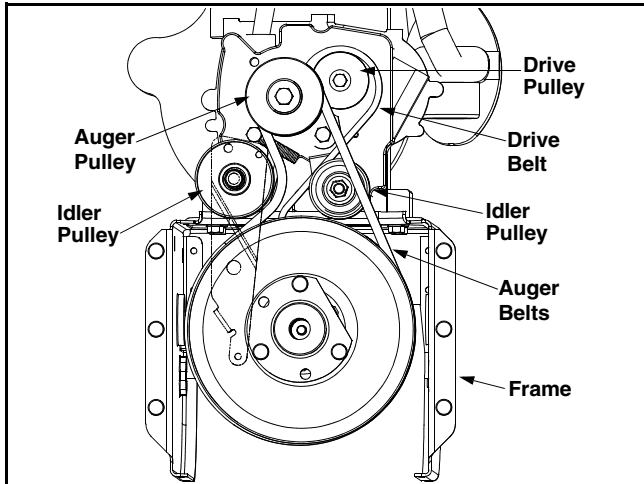

Figure 15
- Roll the front and rear auger belts off the engine pulley. See Figure 15.
- Pull the idler pulley up and lift the belt off the engine pulley and friction wheel disc. See Figure 15.